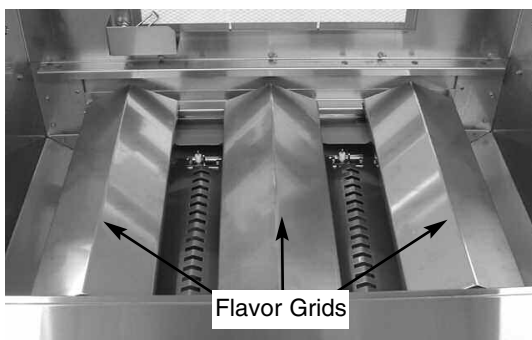

Fig 1
1. Remove cooking grates and flavor grids. (See Fig. 1)
24. Reinstall the flavor grids. (See Fig. 1 on page 2)